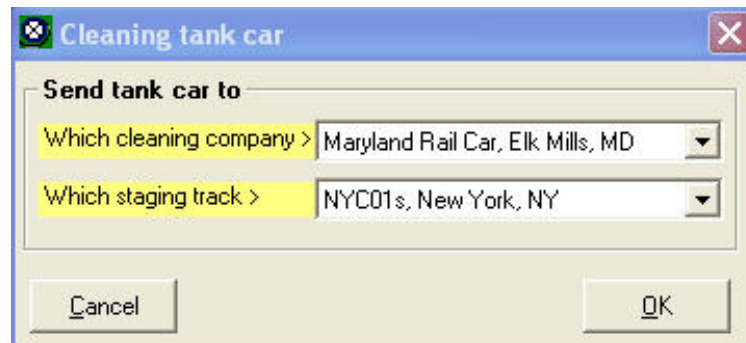

Figure 12-3
2. Most of the cars will be straight forward, but if you copy a tank car which is restricted as to commodity and you change the "Load restricted to" field you will be asked about cleaning the tank car (see Figure 12-3). We'll send our car to "Maryland Rail Car, Elk Mills, MD" through staging track "NYC01s, New York, NY". Use the dropdown arrows beside each data field to select the correct values.
3. Figure 12-3 shows what the "Cleaning tank car" window will look like once this information is entered (selected). Note that this action will only occur if you chose to copy an existing tank car with a value in the "Load Restricted to" data field. If you enter the car as a "New Car", you will not be asked about cleaning.